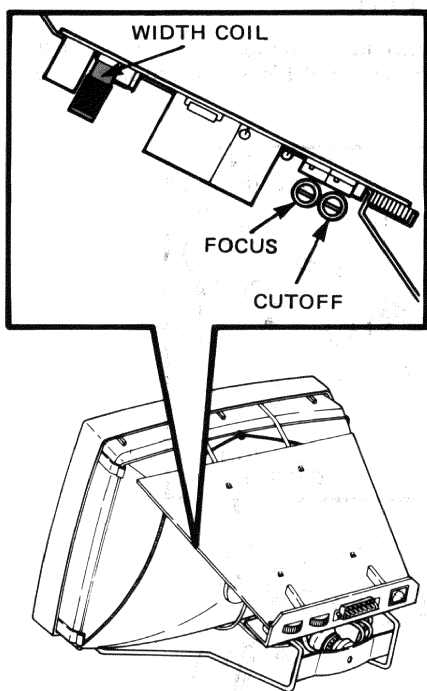

Figure 4-10 Width Coil
2. Adjust the width coil (Figure 4-10) for comfortable viewing.
The cutoff control (Figure 4-10) sets the monitor's sensitivity to the video signal from the system module. It sets the video signal voltage needed to blank out a spot on the screen. If you replace the monitor board, perform the following steps.
2. Measure the width of the center square. This side should be within 1 mm (1/32 in) of the height. If not, adjust the width coil (Figure 4-10).